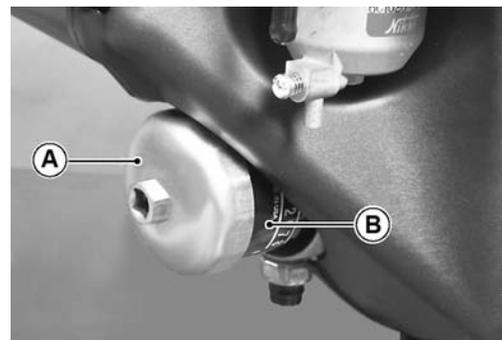

Fig. 18 Remove Oil Filter
Clean the area around filter. Using a filter wrench, strap wrench or other suitable wrench, remove the filter (B) from the engine and allow the oil to drain. The 'O' rings may remain on engine (A) or filter (B) (Ref Fig. 18 on page - 16)